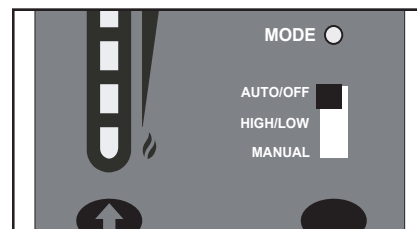

Figure 6: Thermostat Switch in ON/OFF position.
A handle is located in the center of the stove just above the door (shown in Figure 6). This handle is to be pulled up and down a few times (ONLY WHEN THE UNIT IS COLD) in order to clean away any fly ash that may have collected on the heat exchanger tubes. As different types of pellets produce different amounts of ash, cleaning of the tubes should be done on a regular basis to enable the unit to run efficiently.
7. Align the three (3) tabs on the hearth pad to the three (3) screws on the unit (see Figure 6), slide together, and tighten the T-20 screws.